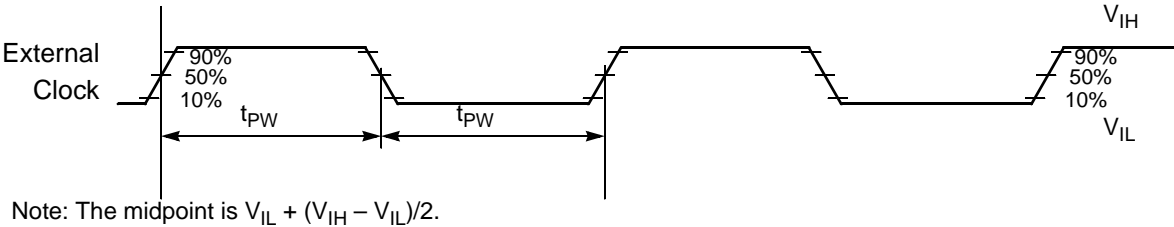

**Figure 3-9 Connecting an External Clock Signal**
The recommended method of connecting an external clock is given in Figure 3-9. The external clock source is connected to XTAL and the EXTAL pin is grounded.
1. See Figure 3-9 for details on using the recommended connection of an external clock driver.